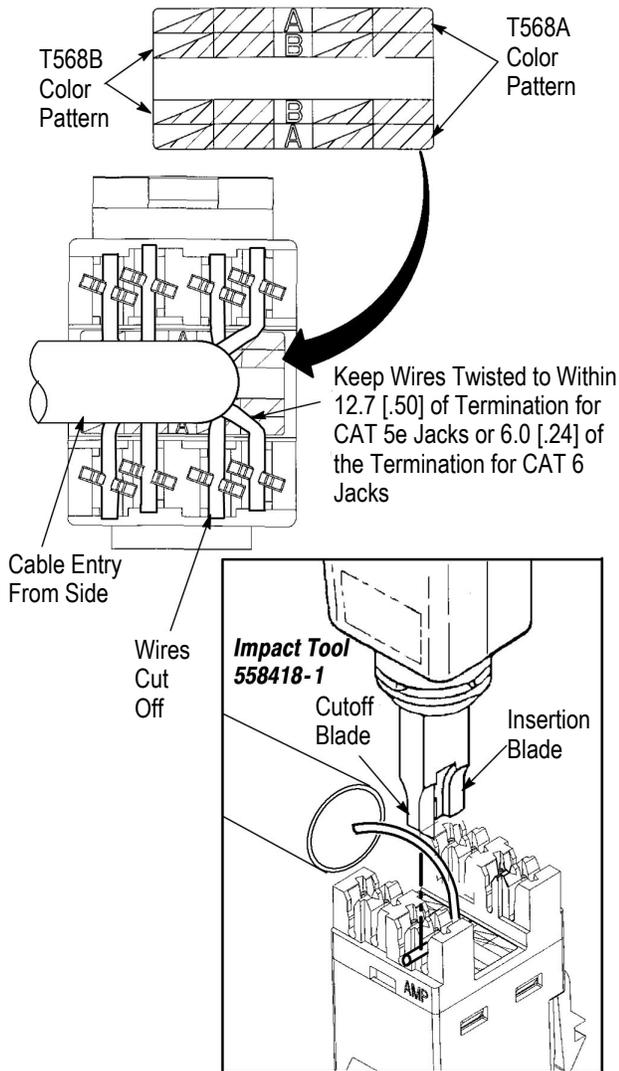

Figure 3
6. Align and lace a color-coded wire pair with the appropriate slots as indicated by the color coding on the wiring label (use minimum slack while maintaining twist, as indicated in Figure 3).